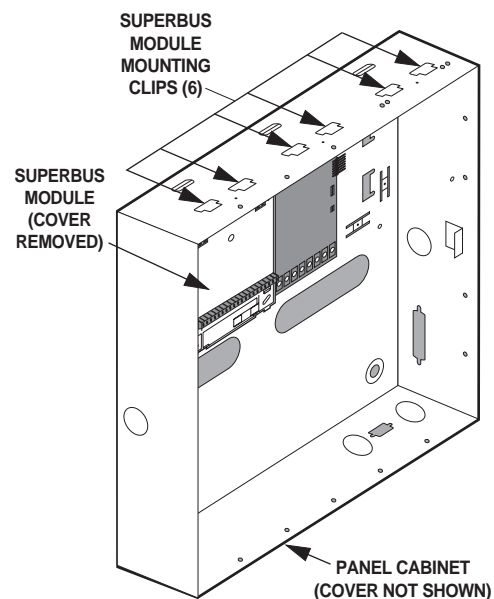

Figure 3. Mounting Module in International Concord Cabinet
4. Slide the module backplate onto the two module mounting clips located on the top-left, top-center, or top-right corner of the cabinet (Figure 3).